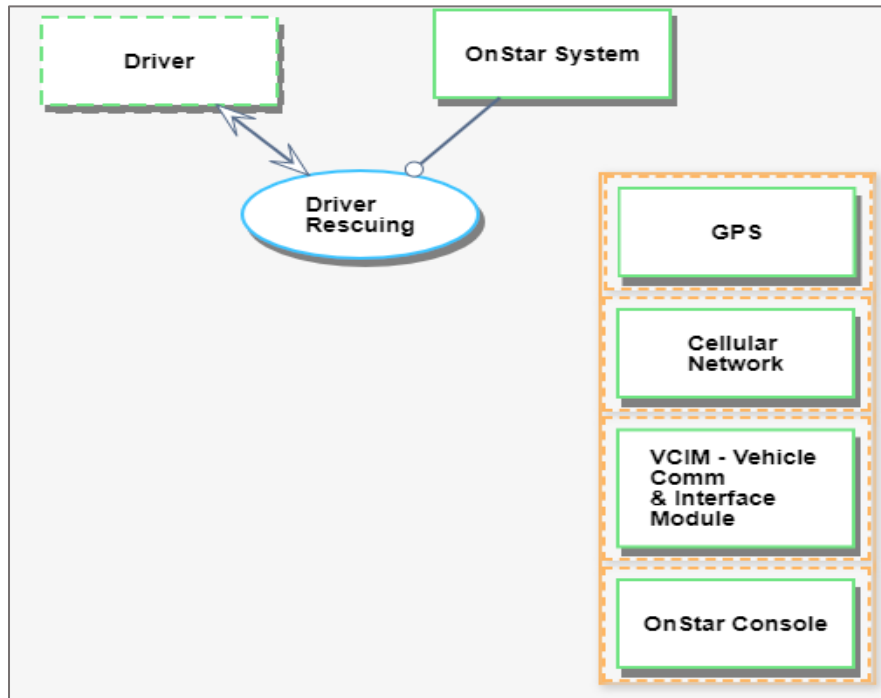

Figure 27. Multiple selection is done by holding the Ctrl key and clicking on the elements one by one.
(1) **Multiple-select**: While holding the Ctrl (Control) key, select each one of the objects to be linked, they will be highlighted in orange. Now draw a link to one of the things in the selected group, the result is presented in Figure 27.